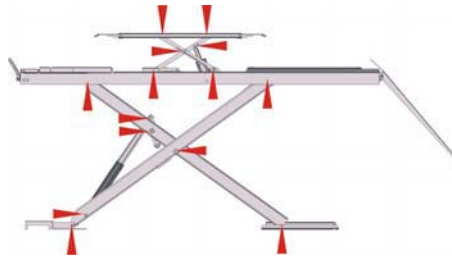

Fig. 9-1 Bearing locations on the machine
► Perform a visual check for wear (*Fig. 9-1, page 31*).